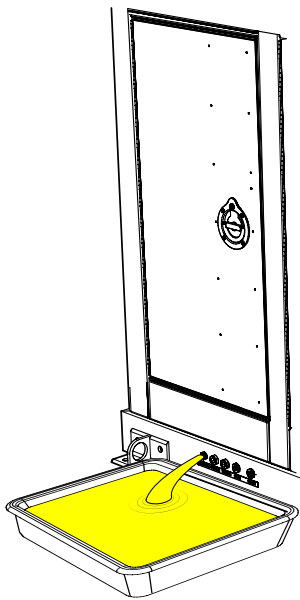

Figure 55. Draining Engine Coolant
2. Remove the coolant drain plug located at the base of the skid as shown in Figure 55 and allow the coolant to drain into a suitable container.